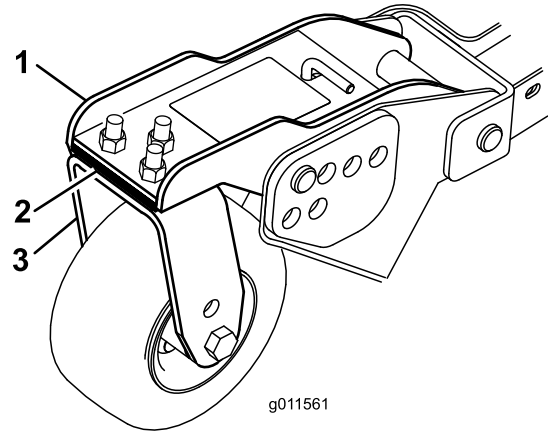

Figure 111
1. Remove the cap screws and nuts securing the castor arm to the castor fork (Figure 111).